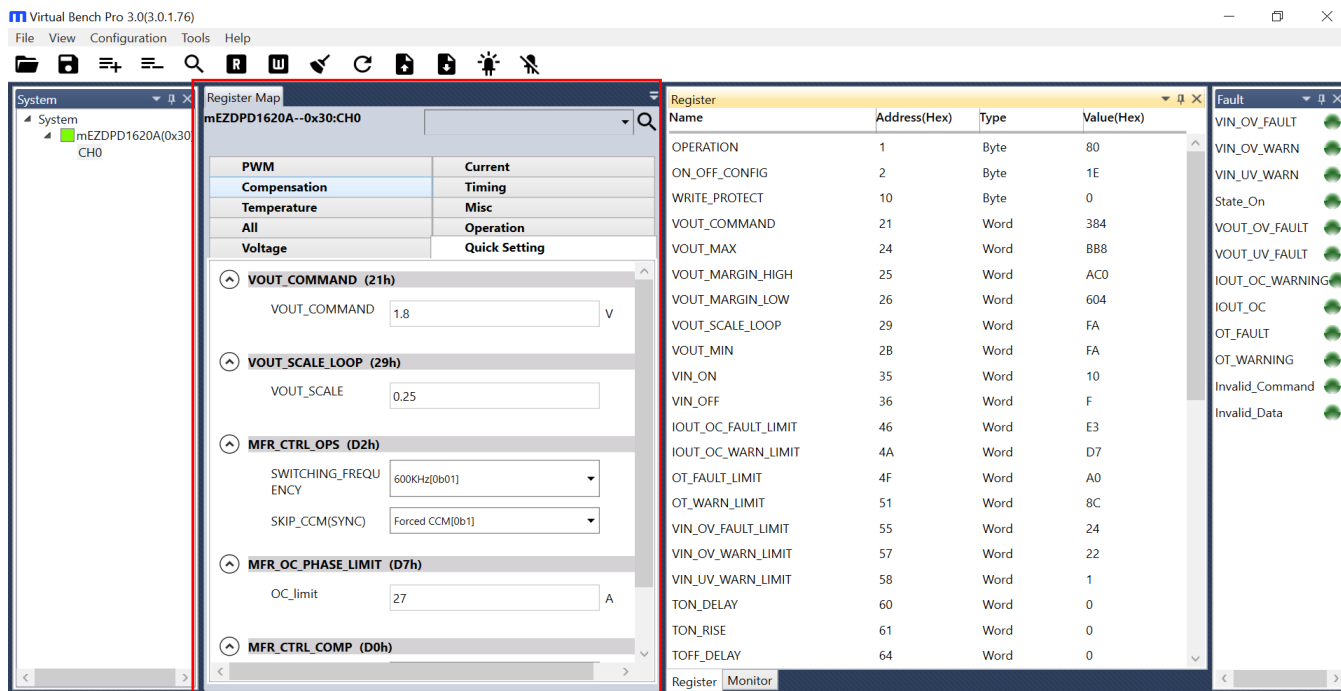

Figure 7: Values Displayed in the Register of the Module
- The Register Control menu will appear in the middle panel. The values stored in the registers of the module are read automatically (see Figure 7).